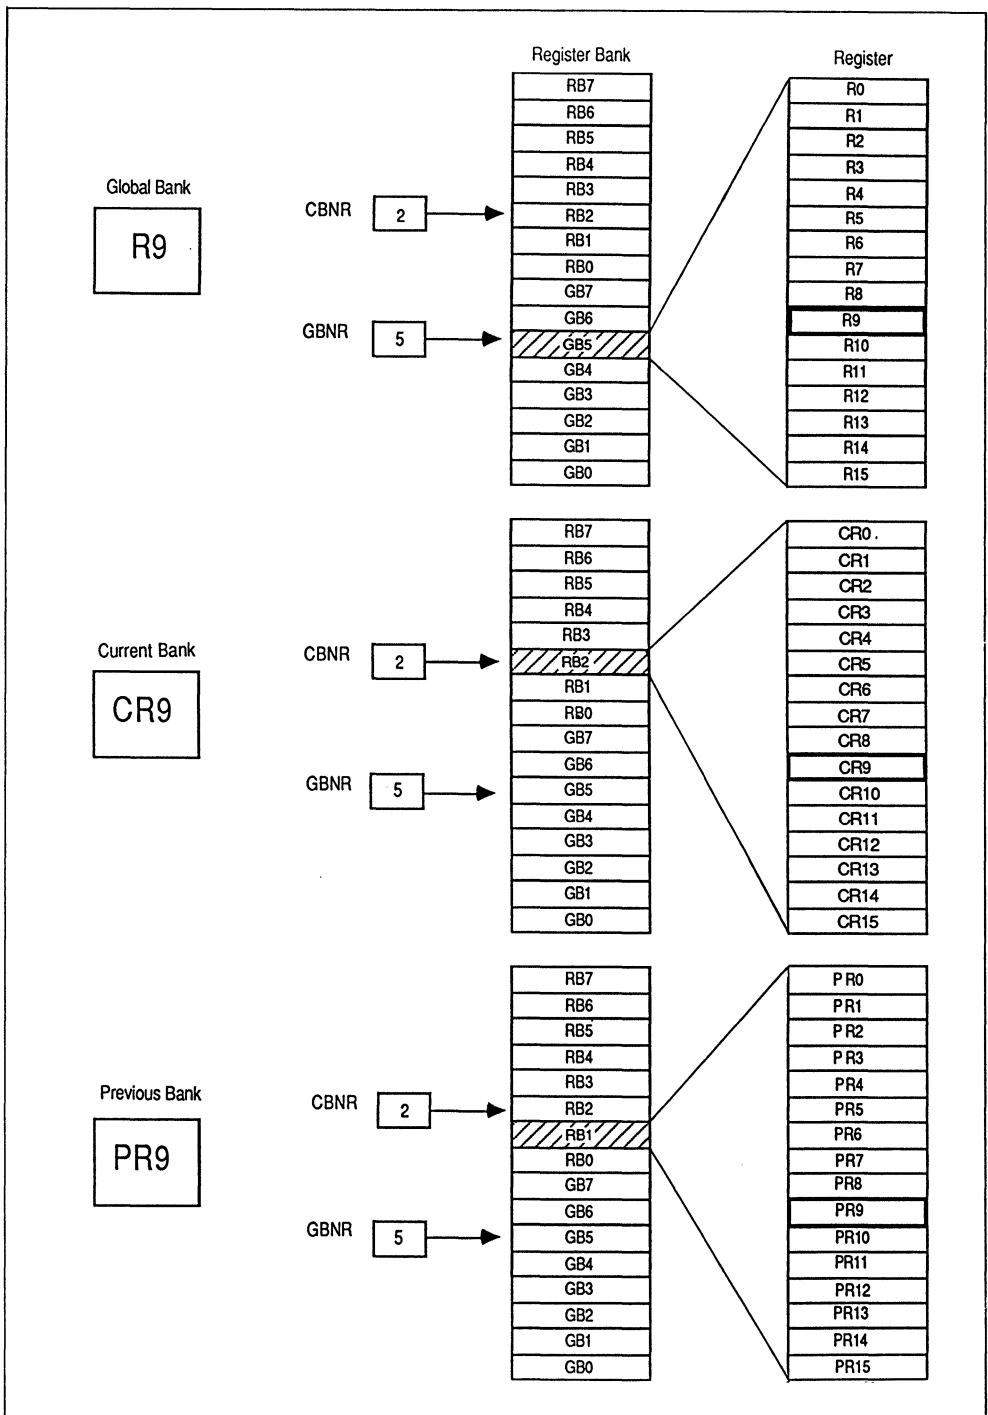

Figure 4-32. Global and Ring Bank Accessing Through GBNR and CBNR
**Ring Bank Access:** The current bank or previous bank can be accessed by selecting either if current bank or previous bank addressing mode. Figure 4-32 shows an example of global and ring bank accesses by GBNR and CBNR. In this example, CBNR is set to 2 and GBNR is set to 5. If global bank register 9 (R9) is specified, R9 of global bank 5 (GB5) specified by GBNR is selected. If current bank register 9 (CR9) is specified, R9 of ring bank 2 (RB2) specified by CBNR is selected. If previous bank register 9 (PR9) is specified, R9 of ring bank 1 (RB1) whose value is indicated by CBNR - 1 is selected.